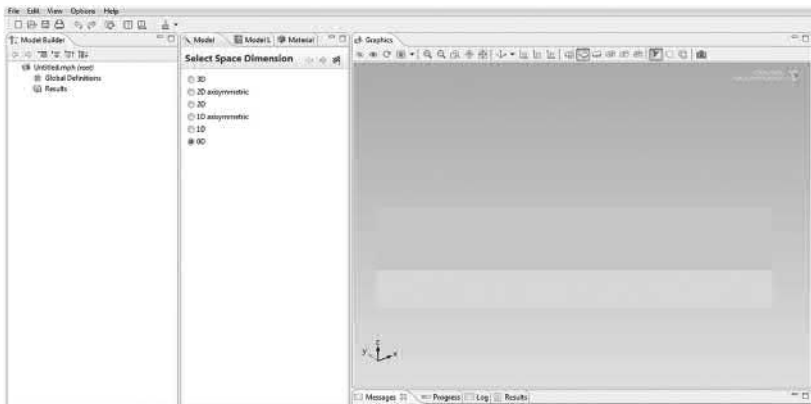

**FIGURE 2.2** Concentrations as a function of length of the reactor [solution to Equations (2.4)–(2.7)].
- Click on the *Compute (=)* button. A plot of *Concentrations versus Length* appears as shown in Figure 2.2.